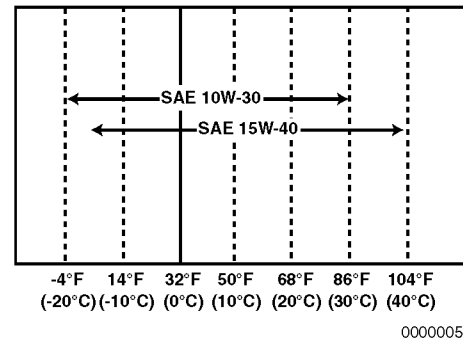

Figure 3-52
The 10W30 and 15W40 can be used throughout the year. See Figure 3-52.
- *Select the oil viscosity based on the ambient temperature where the engine is operated. See **Figure 3-52**.*